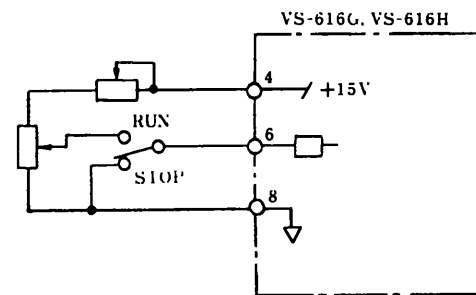

Fig. 6.6 Contact Signal to Terminal (6)
(2) When inputting the contact signal to terminal (6), use the lab contact so that a 0V signal is applied to terminal (6) for stopping (Fig. 6.6). (This is to prevent malfunction by induced voltage.)